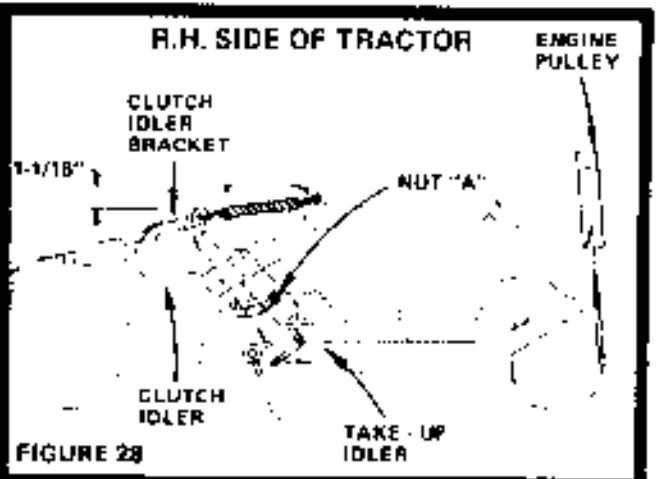

FIGURE 28
- e. Depress Brake-Clutch Pedal to the point where Belt (Fig. 28) stops moving. Hold Brake-Clutch Pedal in position by engaging Parking Brake (Fig. 9). If Belt begins to move after engaging Parking Brake, depress Brake-Clutch Pedal to next notch on Parking Brake.
- e. Check position of Clutch Idler Bracket (Fig. 28).
- h. Reinstall Shift Cover Plate and (4) Screws removed in step a